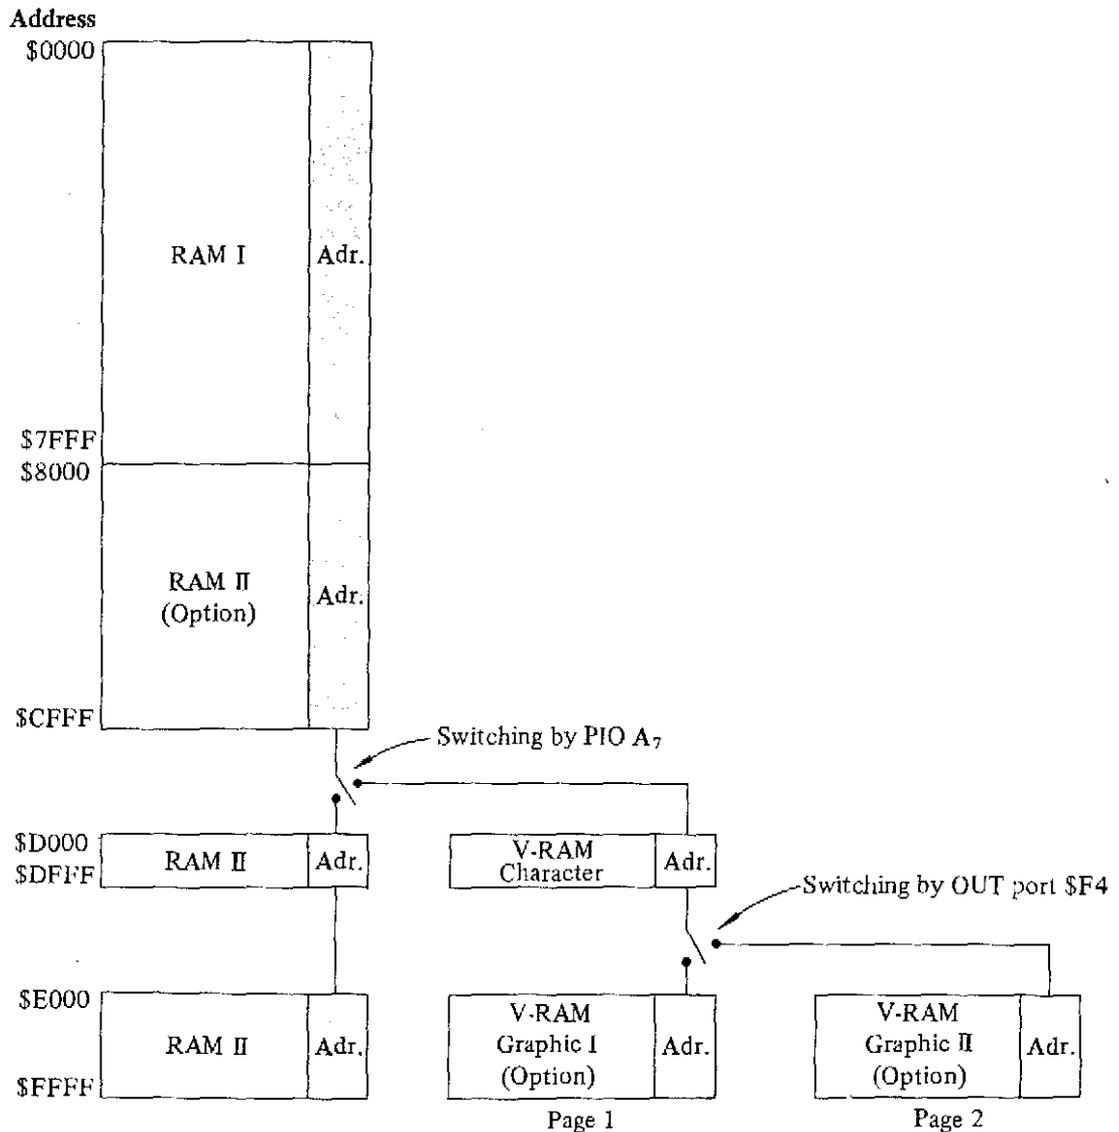

FIGURE 4.4 Switching of main memory and V-RAM (1)
This changeover is effected by A_7 of PIO. When two pages of graphic V-RAM are used, selection of graphic pages (I) and (II) will be done by OUT port \$F4. This operation is shown in FIGURE 4.4.